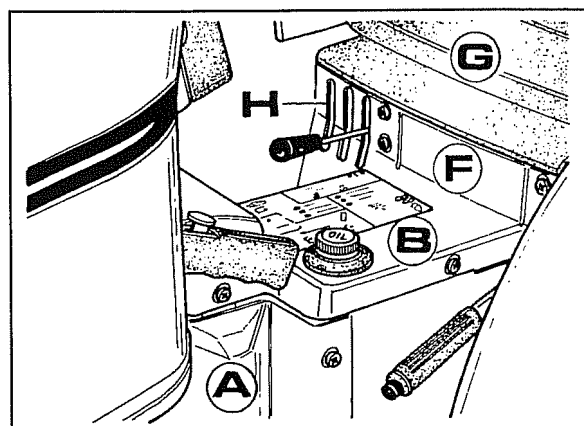

Fig. 9
- 1 Remove seat **G**, the centre guard **B** and the side panels **A-H** as shown in Fig.9.